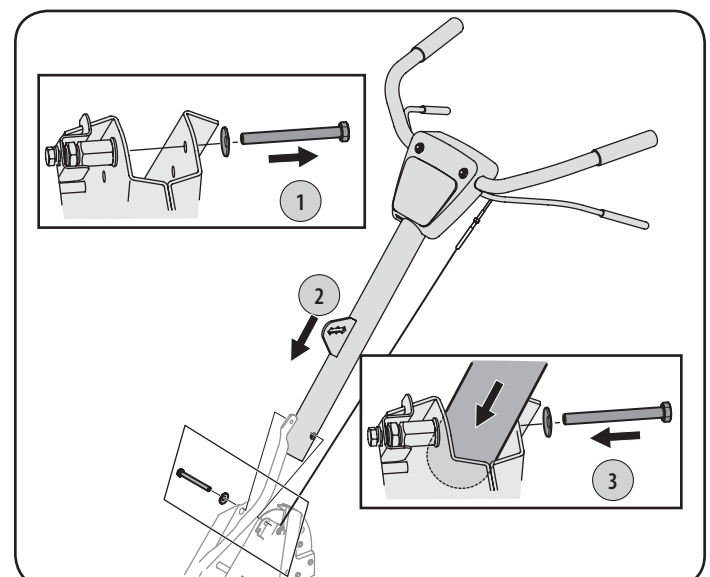

Figure 3
1. Remove the hex bolt and cupped washer from the right side of the frame. Hold the cable guide bracket on the left side of frame as it will fall when the bolt is removed. Step 1 in Figure 3.
2. Insert the handle into the tiller frame. Step 2 in Figure 3.
3. Insert the bolt through the cupped washer, frame, handle and into the cable guide bracket (note the notch in the cable guide bracket goes over the flange on the frame.) Step 3 in Figure 3.